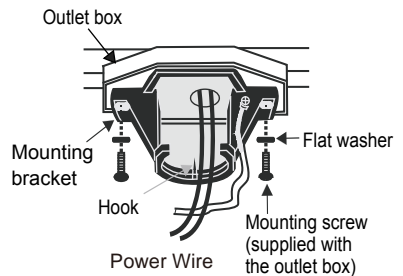

Fig. 1
Step 1. Pass the power wires through the center hole in the mounting bracket as shown in Fig. 1.